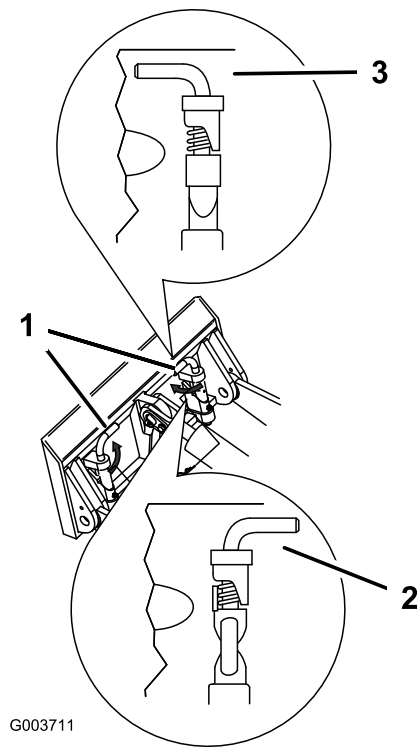

Figure 14
7. Engage the quick-attach pins, ensuring that they are fully seated in the mount plate (Figure 14).